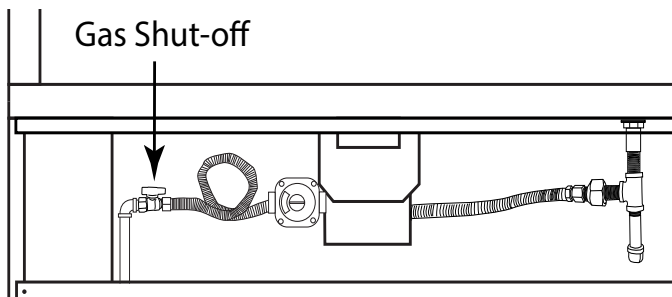

Figure 1 - Close up view of inlet gas connection with shutoff valve
GAS LINE: The gas line must have a predetermined location to enable it to be installed. *Figure 1* shows one example of an inlet gas line with a gas shut off at the fireplace. This allows a technician to shut the inlet gas supply OFF and remove the burner for servicing. **It is imperative that the flex line from the gas shutoff be long enough to lift out burner pan for service. Ensure you follow the local and state gas codes per your installation.**
3. The primary gas shutoff (supplied) will require a 1/2" male flared fitting to enable connection of the stainless steel flex gas line supplied with the fireplace (*See Figure 1, Page 5*).
*NOTE: Preparation for the LED lighting and the inlet gas line must be planned before the fireplace is installed. See **Page 5, Figure 1** for inlet gasline and **Page 15** for LED lighting.*